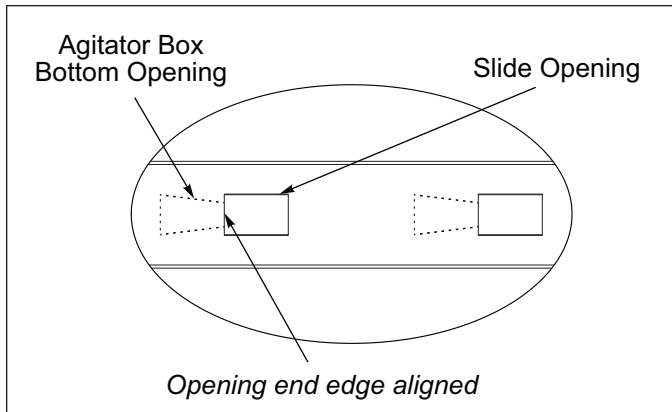

Figure 4-22: Pointer Set at “0”
- When the Pointer is set to “0” (closed), the Agitator Box bottom opening end edge is aligned with the Slide opening end edge. **See Figure 4-22.**